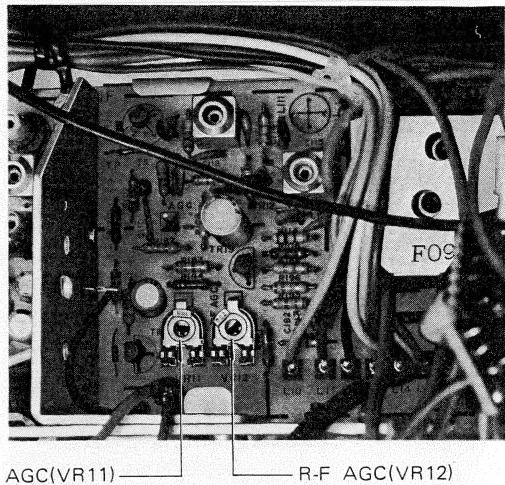

Fig. 3.
AGC (Fig. 3)
- (1) Set the channel selector to a channel transmitting a strong signal.
- (2) Set the R-F AGC control VR12 to the center position (see Fig. 3).
- (3) Turn the I-F AGC control VR11 fully counterclockwise, and the contrast and brightness controls fully clockwise.
- (4) Adjust the I-F AGC control VR11 to obtain the sharp and clear picture. If I-F AGC control VR11 is turned fully clockwise, the picture may get dark and turned fully counterclockwise, it may get bright.
- (5) Observing the picture, turn the R-F AGC control VR12 clockwise or counterclockwise to the point where the snow noise disappears in the picture. (Fig. 3)
- (6) Check the reception on all channels. These should be no wiggling. Make certain the picture does not disappear when the contrast control is turned to minimum.
- (7) Re-adjust AGC control slightly if necessary. In very strong signal areas where slight sync. clipping is still evident, shorten antenna length to reduce sensitivity of the set.